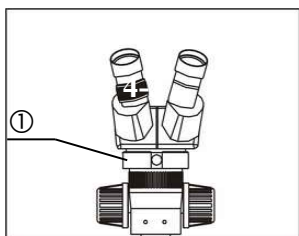

Fig.3
- 2) Observe the specimen through the left eyepiece and adjust the diopter adjustment ring ① till the image is clear. (Fig. 3)